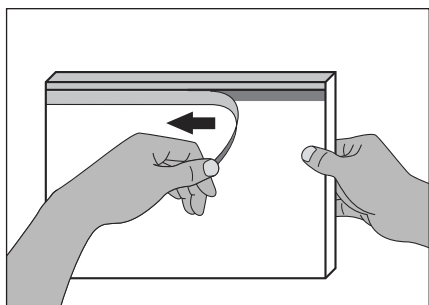

FIGURE 20
- 8b. Pick up your bound document from the cooling rack. Peel off the release papers from the spine, first from one side of the book and then from the other side. (figure 20)